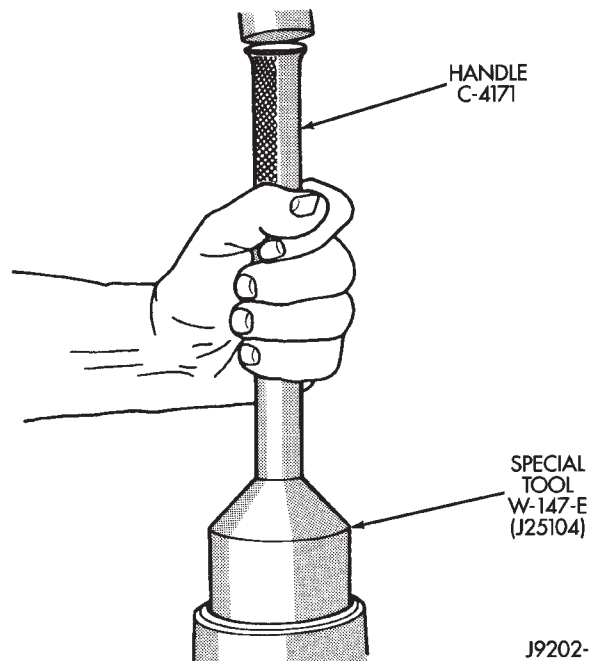

Fig. 4 Pinion Seal Installation
(1) Apply a light coating of gear lubricant on the lip of pinion seal. Install seal with Installer W-147-E and Handle C-4171 (Fig. 4).